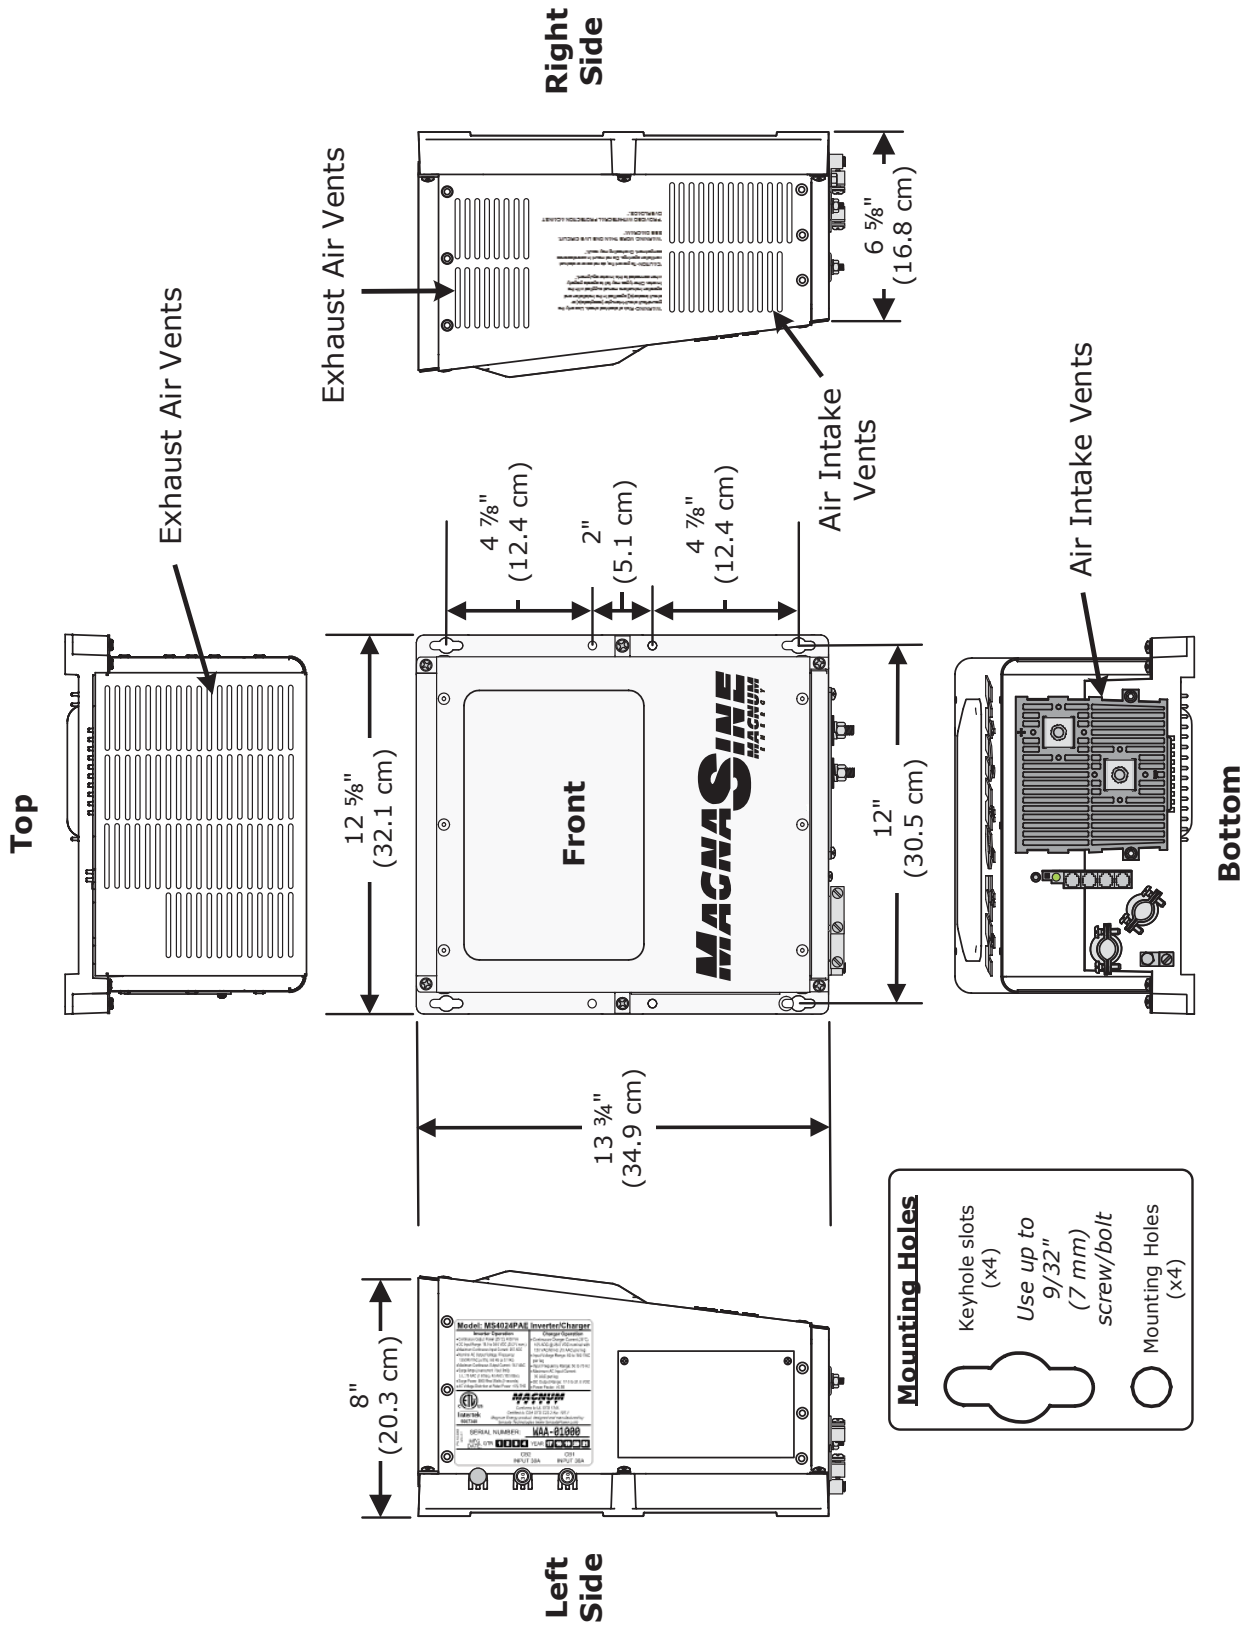

Figure 2-3, MS-PAE Series Dimensions
**Accessible** – Do not block access to the inverter’s RJ45/RJ11 electrical ports, ON/OFF switch, and status indicator. Also, allow enough room to access the AC and DC wiring terminals and connections, as they will need to be checked and tightened periodically. See Figure 2-3 for the MS-PAE Series inverter/charger’s dimensions.
After determining the mounting position, refer to the physical dimensions as shown in Figure 2-3 or use the base of the inverter as a template to mark your mounting screw locations. After marking the mounting screw locations, mount the unit with appropriate mounting hardware.